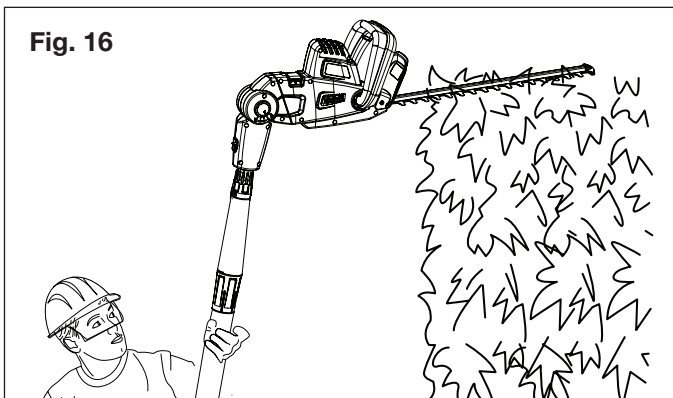

Fig. 16
1. To use the pole hedge trimmer for trimming tall, hard-to-read hedges or shrubs, hold the trimmer at the position shown below (Fig. 16). Pivot the power head to several different positions to shape or sculpt shrubs or hedges.